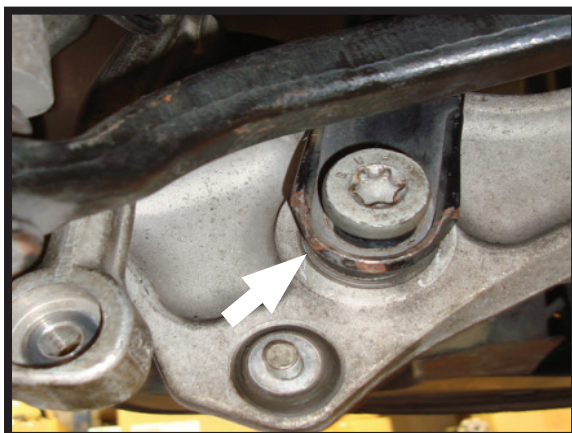

FIGURE 3
5. REMOVE THE LOWER SHOCK MOUNT NUT/BOLT. (FIGURE 3)